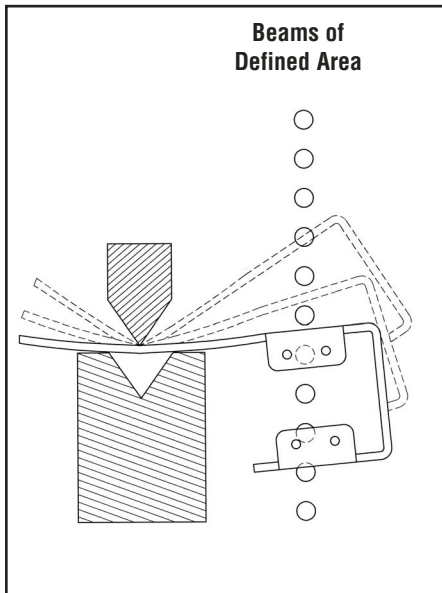

Figure 2. Two-Beam Floating Blanking
*Floating blanking* is the "blinding" of groups of two adjacent sensing beams, which will appear to change position ("float") in order to allow multiple objects (usually workpiece material) to move through the defined area, at any point, without tripping the final switching device relays of the MINI-SCREEN System. *With floating blanking "on", any and every one- or two-beam blockage(s) will be ignored.* See Figure 2.